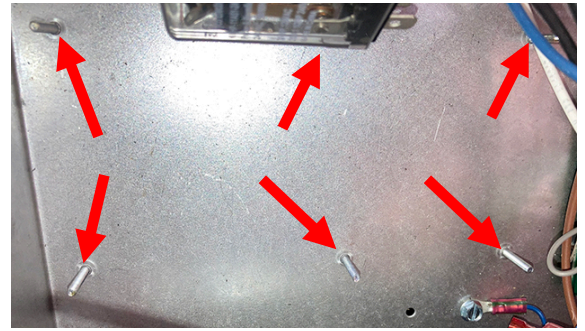

Figure 38
50. On the left side of the control box are six (6) studs (see Figure 38).